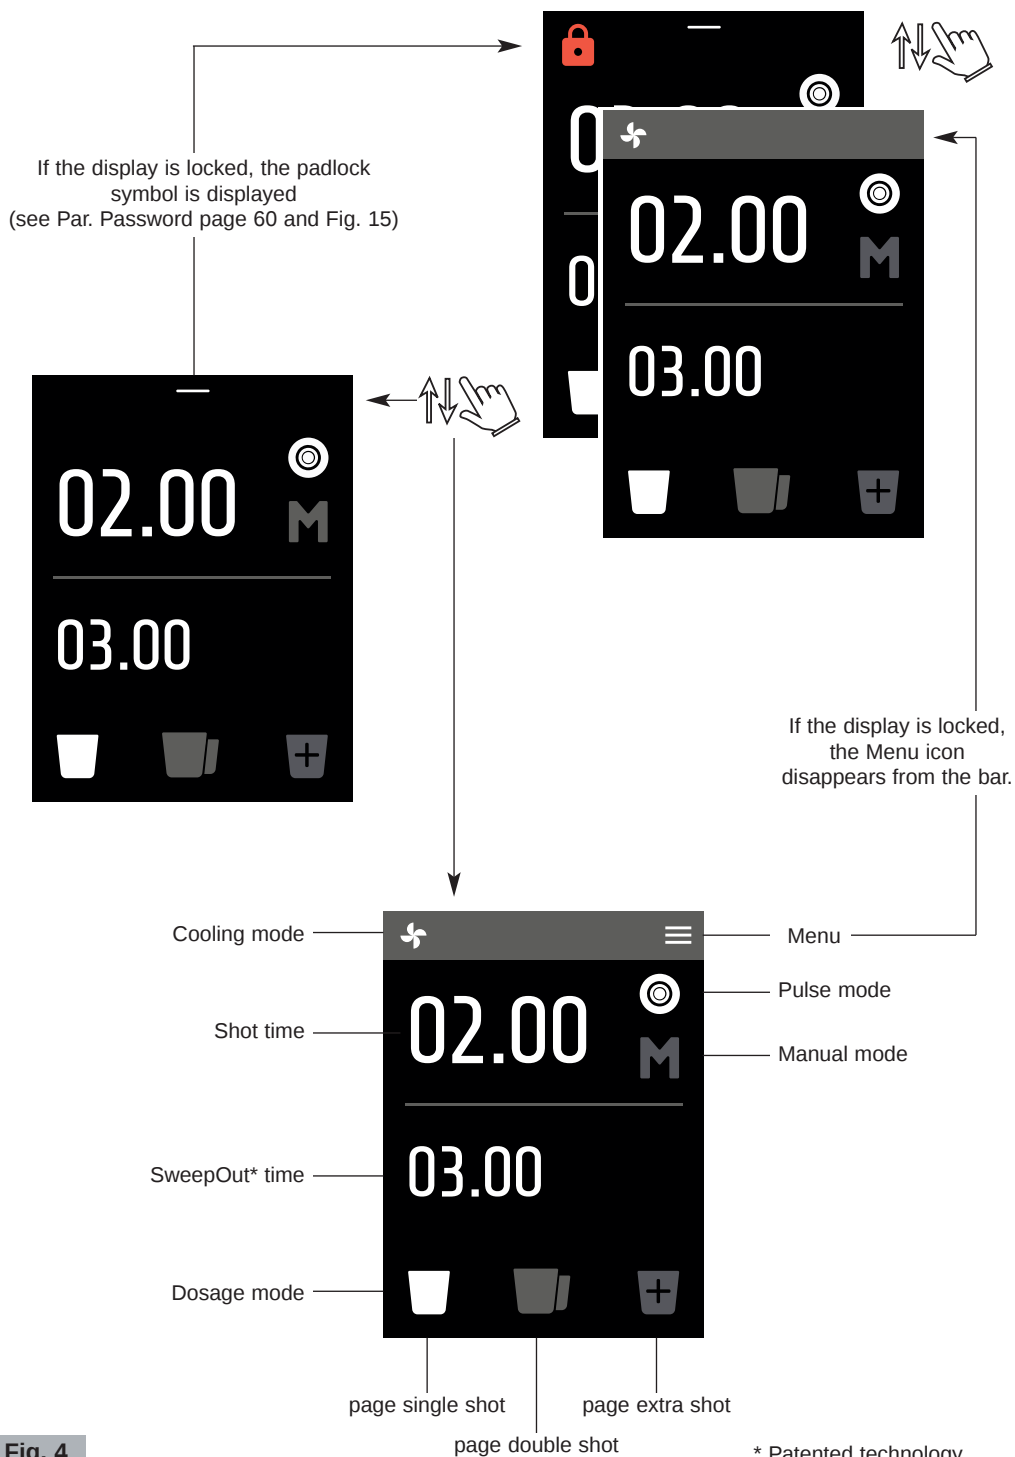

Fig. 4
Main parts (Fig. 1, Fig. 2, Fig. 3, Fig. 4)
| 7 | Control panel (Fig. 1 and Fig. 4) | 16 | Granulometry indicator disc |
- 2 Turn the ON-OFF switch (14 Fig. 2) to position "I". The panel (7 Fig. 1) lights up (see Fig. 4).